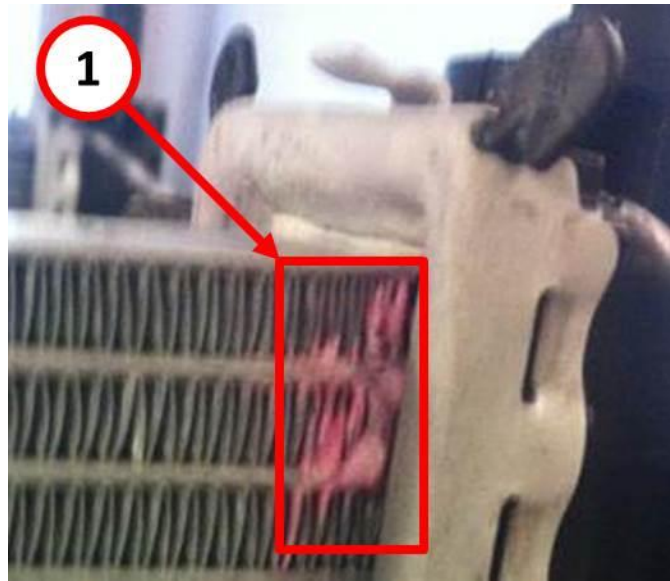

Fig. 1 Corner Of Radiator
1. Inspect the radiator core for signs of seepage especially at the corners. If necessary, pressure test the cooling system to check for leakage. See (Fig. 1)